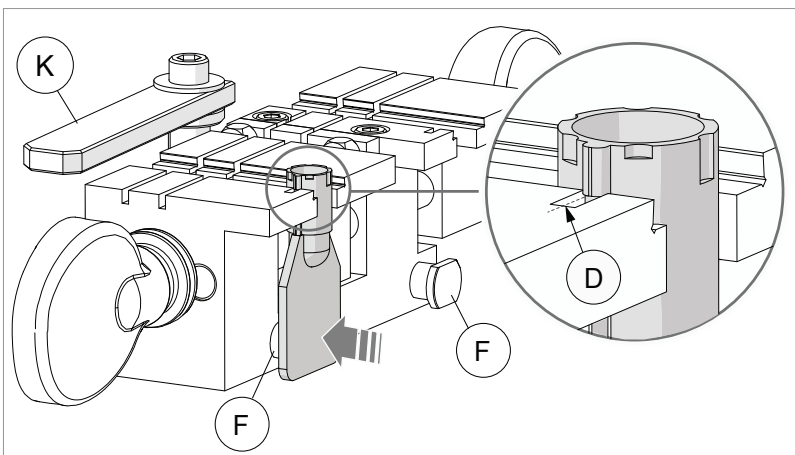
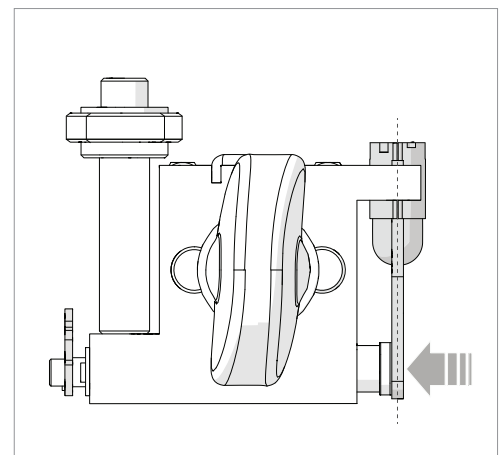
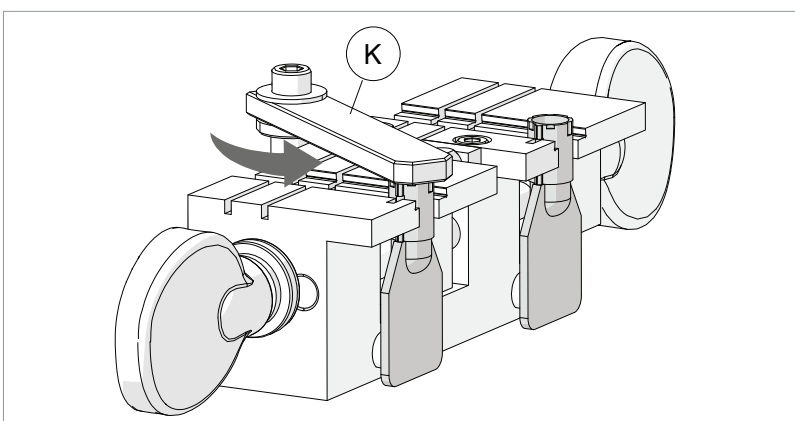
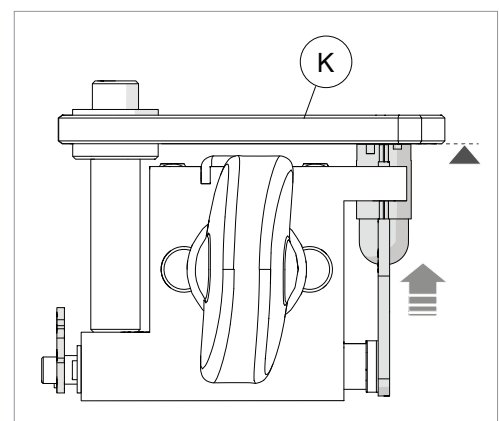

Fig. 32
Fig. 33
Fig. 34
Fig. 35
**Check that the motor start switch (Q) is OFF.**
- align the key stop with the jaw notch (D) (Fig. 32).
- maintain alignment by holding the key head up against the positioning device (F) (Fig. 33).
- use the knob (E) or (E1) to lightly secure the key.
- take the aligning bar (K) over the key (Fig. 34). Raise the key until it is up against the bar (Fig. 35).
- secure the key with the knob (E) or (E1).
- 3) When both keys are in position, take the bar (K) to the idle position (Fig. 32).
- 5) Enable the tracer point spring function loosening nut (O).
- 6) Turn on the machine with the master switch (P).
- 7) Grip the levers (C) and (J) and turn on switch (Q) to start the motor.
- 8) Hold the carriage with the left-hand lever (C), lower the vertical carriage with the right-hand lever (J) until the tracer point centres on one of the cuts in the key and continue to lower (using the tracer point spring function) to reach cutting depth.
- 9) Move the lever (C) slightly to complete each single cut.